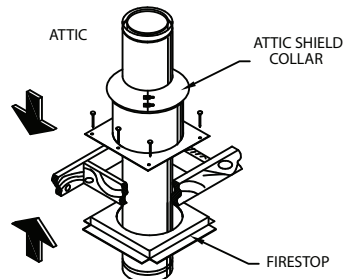

Figure 10
(2) 8-penny nails or two (2) #8, 1-1/2" wood screws per side (**Fig. 10**).
e. Wrap the Collar of the Attic Insulation Shield around the chimney and fasten it loosely. Slide the Collar down to meet the Attic Insulation Shield. Tighten the bolts to secure the Collar in place (**Fig. 10**).